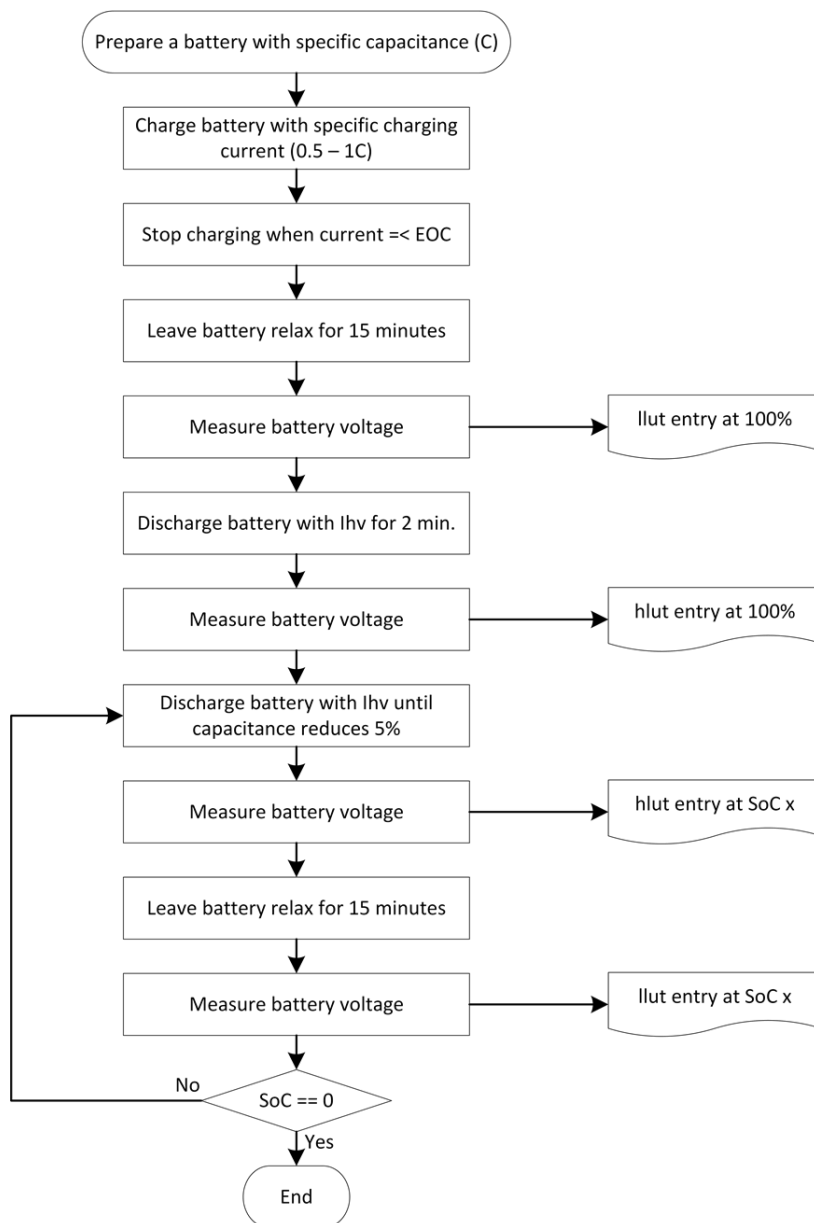

Figure 9: Battery Profiling Process
6. Basic llut, hlut and clut at 25 °C are generated as shown in Figure 9.
Figure 9 shows the flowchart for battery profiling.